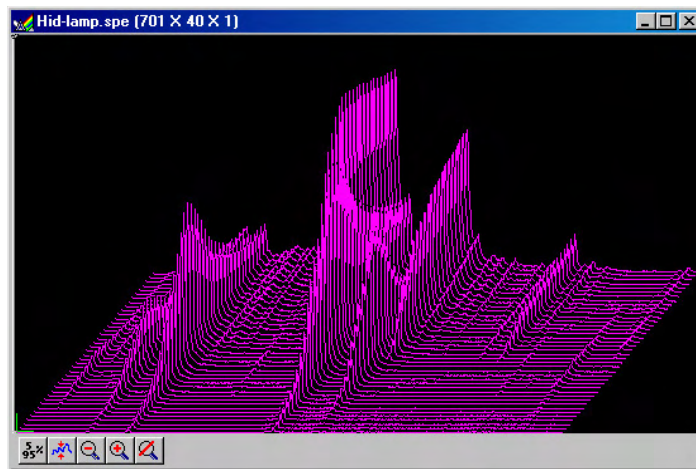

Figure 59. High Intensity Lamp Spectrum
5. Either double-click on the name of the file you want to open or single-click on the name and then click on the **Open** button. For example, with 3D Graph selected, double-clicking on Hid-lamp.spe would open that file, producing the display shown in Figure 59. Note that there are many different ways of controlling how the image will be displayed, as described in Chapter 8.